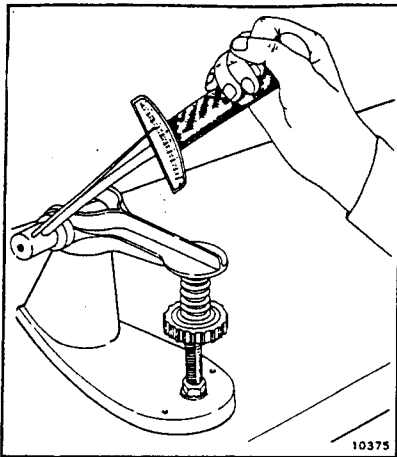

Figure 8-1-9
11. Check valve spring tension with tool J-8056 spring tester (see Figure 8-1-9).